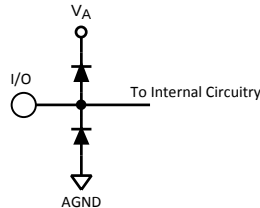

Figure 2.
- (1) The inputs are protected as shown below. Input voltage magnitudes above V_A or below GND will not damage this device, provided current is limited per Note 4 of the Absolute Maximum Ratings Table. However, errors in the A/D conversion can occur if the input goes above V_A or below GND by more than 100 mV. As an example, if V_A is +3.3V, the full-scale input voltage must be $\leq +3.4V$ to ensure accurate conversions. See Figure 2.
- (2) To ensure accuracy, it is required that $|V_A - V_D| \leq 100\text{ mV}$ and separate bypass capacitors are used at each power supply pin.
- (3) With the test condition for $V_{REF} = +1.0V$ (2V_{P-P} differential input), the 12-bit LSB is 488 μV .
- (4) Typical figures are at $T_J = 25^\circ\text{C}$, and represent most likely parametric norms. Test limits are to AOQL (Average Outgoing Quality Level).
- (5) Integral Non Linearity is defined as the deviation of the analog value, expressed in LSBs, from the straight line that passes through positive and negative full-scale.
- (6) Optimum performance will be obtained by keeping the reference input in the 0.8V to 1.2V range. The LM4051CIM3-ADJ (SOT-23 package) is recommended for external reference applications.
- (7) This parameter is specified in units of dBFS - indicating the equivalent value that would be attained with a full-scale input signal
- (1) The inputs are protected as shown below. Input voltage magnitudes above V_A or below GND will not damage this device, provided current is limited per Note 4 of the Absolute Maximum Ratings Table. However, errors in the A/D conversion can occur if the input goes above V_A or below GND by more than 100 mV. As an example, if V_A is +3.3V, the full-scale input voltage must be ≤+3.4V to ensure accurate conversions. See Figure 2.
- (3) With the test condition for $V_{REF} = +1.0V$ (2V_{P-P} differential input), the 12-bit LSB is 488 μV.
(1) The inputs are protected as shown below. Input voltage magnitudes above V_A or below GND will not damage this device, provided current is limited per Note 4 of the Absolute Maximum Ratings Table. However, errors in the A/D conversion can occur if the input goes above V_A or below GND by more than 100 mV. As an example, if V_A is +3.3V, the full-scale input voltage must be $\leq +3.4V$ to ensure accurate conversions. See Figure 2.
(2) To ensure accuracy, it is required that $|V_A - V_D| \leq 100\text{ mV}$ and separate bypass capacitors are used at each power supply pin.
(3) With the test condition for $V_{REF} = +1.0V$ (2V_{P-P} differential input), the 12-bit LSB is 488 μV .
(4) Timing specifications are tested at TTL logic levels, $V_{IL} = 0.4V$ for a falling edge and $V_{IH} = 2.4V$ for a rising edge.
(5) Typical figures are at $T_J = 25^\circ\text{C}$, and represent most likely parametric norms. Test limits are to AOQL (Average Outgoing Quality Level).
(6) This parameter is ensured by design and/or characterization and is not tested in production.